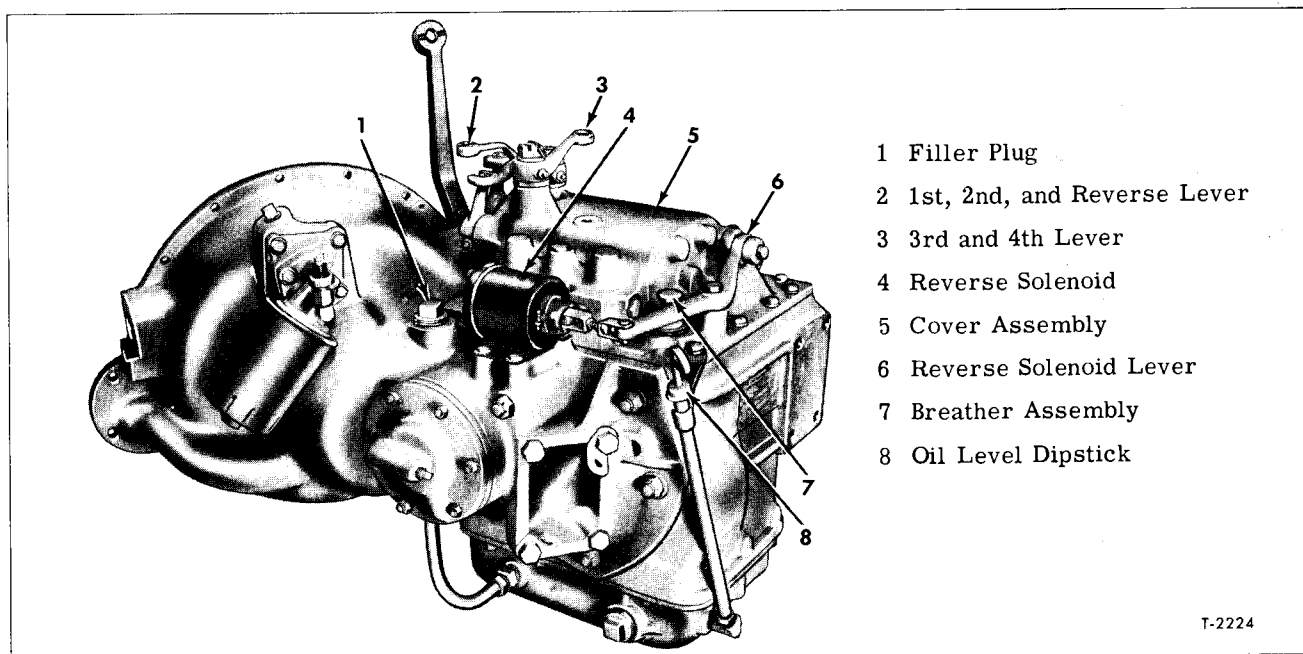

Figure 1—Transmission Assembly
Figure 1 is a view of transmission assembly.
Reverse solenoid and lever (4 and 6, fig. 1) move shaft (4) endwise to engage inner finger (12) with notch in fork (13) when shifting into reverse. Spring (11) returns finger (12) to notch in 1st and 2nd shift fork when shifting transmission out of reverse. A breather assembly (7, fig. 1) is installed in transmission cover.